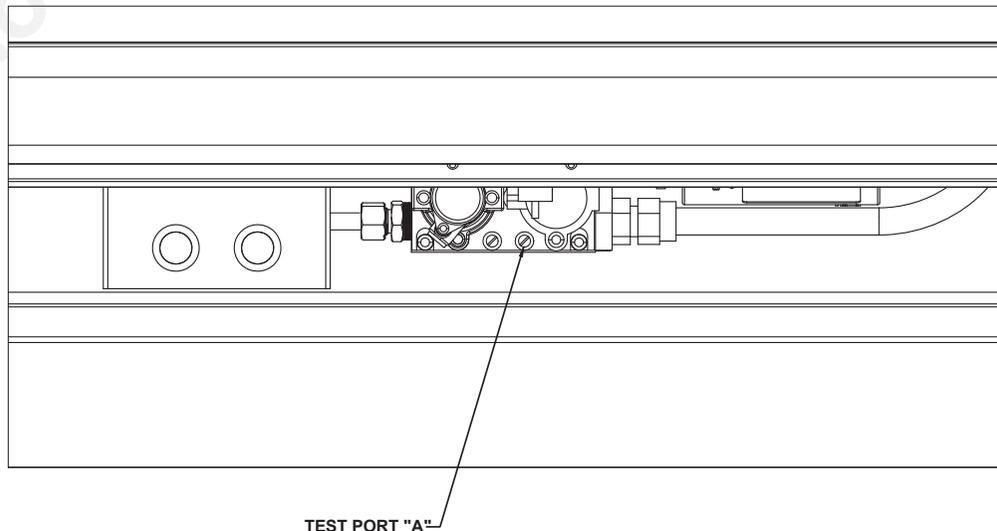

Figure 5.1. Valve Pressure Tap
- Valve pressure taps are accessible by removing the control door. See Figures 5.1 & 5.2.